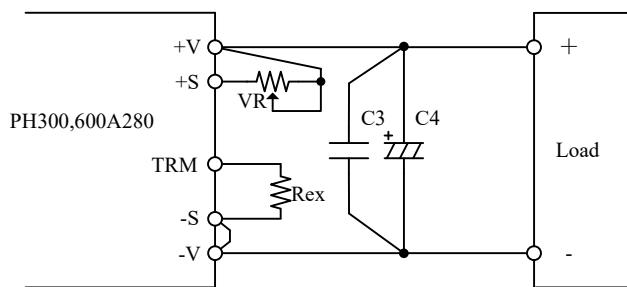

Fig.7-13 Example of Connecting External Resistor (To adjust output voltage for whole range)
Output voltage can be adjusted within specifications of output voltage adjustment range if resistance values of external resistor (Rex) and external variable resistor (VR) as follows are connected like a Fig. 7-13. Take note that output voltage do not become out of specifications when output voltage is adjusted.